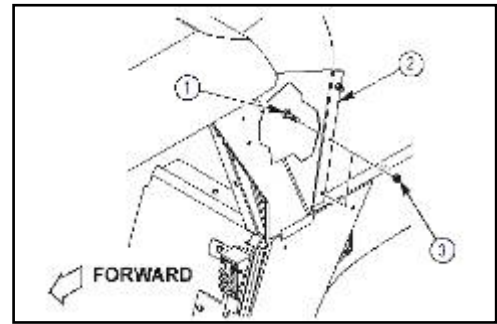

Figure 26a.
1. Remove two locknuts (3) and capscrews (1) from upper C-pillar armor (2) as shown in figure 26a. Discard all fasteners.
2. Install 6435222-01M1 or 6435222-200M1 left hand upper C-pillar overlay (6) on upper C-pillar armor (2) with two 4397000-012 capscrews (8), 4397005-011 washers (7), 4397083-001 aluminum washers (5) (use as spacers, only as required), and two 4397064-